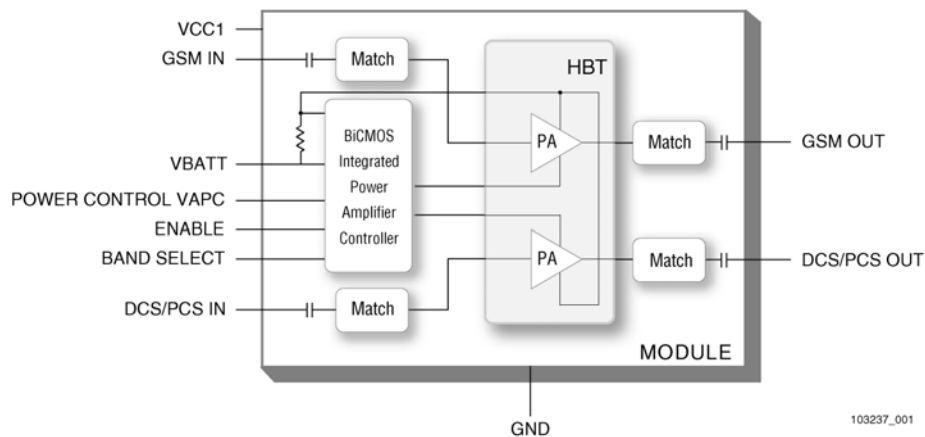

Figure 3.5.6-1 GSM PA functional block diagram
leakage current (2.5 μA, typical) of the dual PA module maximizes handset standby time. The SKY77328 also contains band-select switching circuitry to select GSM (logic 0) or DCS/PCS (logic 1) as determined from the Band Select (BS) signal. In Figure 3.5.6-1 below, the BS pin selects the PA output (DCS/PCS OUT or GSM850/900 OUT) and the Analog Power Control (VAPC) controls the level of output power.